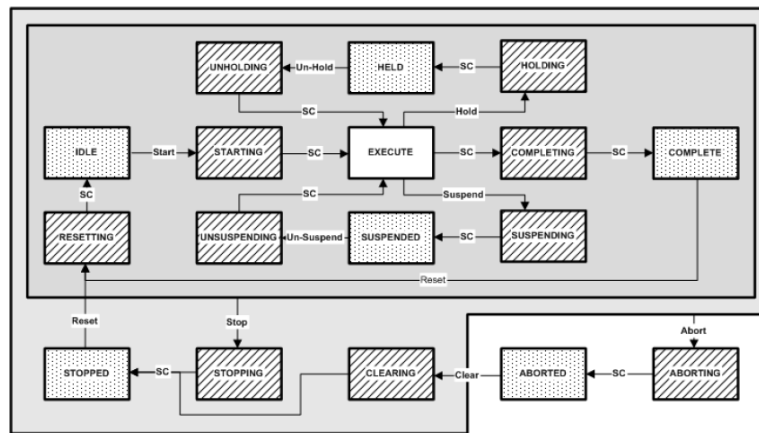
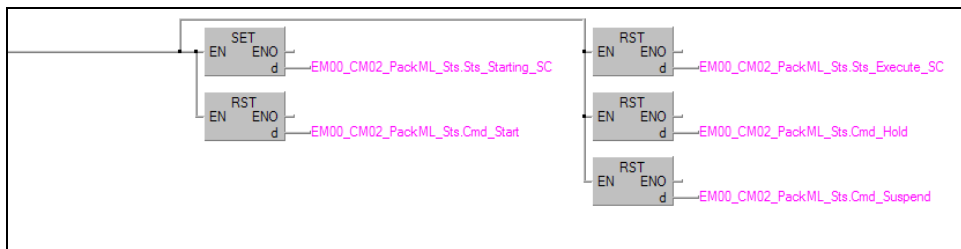

Figure 15 – Producing Mode State Model
Figure 16 – Sample Ladder Logic for Handling PackML Commands
If the Unit Machine is in the Producing Mode, Starting state as shown in the State Model in Figure 15, when the execution of the machine control logic of Equipment Module 00 and Control Module 02 in the Starting State is completed, the State Machine should proceed to the “Execute State” when the Starting State “State Complete” (SC) command is issued.
- Referring to the State Model in Figure 15, the Execute State can potentially transition to one of the “Holding”, “Completing” and “Suspending” states depending on the PackML command that will be issued when the Execute State logic is complete. It is important that the commands causing the State Model to transition from the Execute State be reset so that the State Model will be transitioned to and remain in the Execute State properly. Thus, referring to Figure 16, the following commands EM00\_CM02\_PackML\_Sts.Sts\_Execute\_SC, EM00\_CM02\_PackML\_Sts.Cmd\_Hold, and EM00\_CM02\_PackML\_Sts.Cmd\_Suspend should be reset.